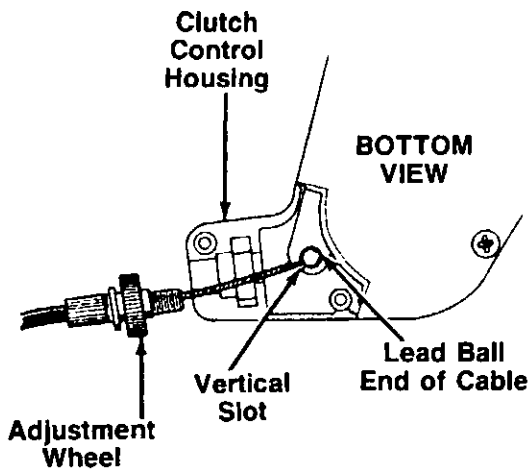

FIGURE 6.
1. Place the lead ball end of the cable into the fitting provided in the end of the clutch control lever. Slip the braided wire into the vertical slot as shown in figure 6.
← figure 6.